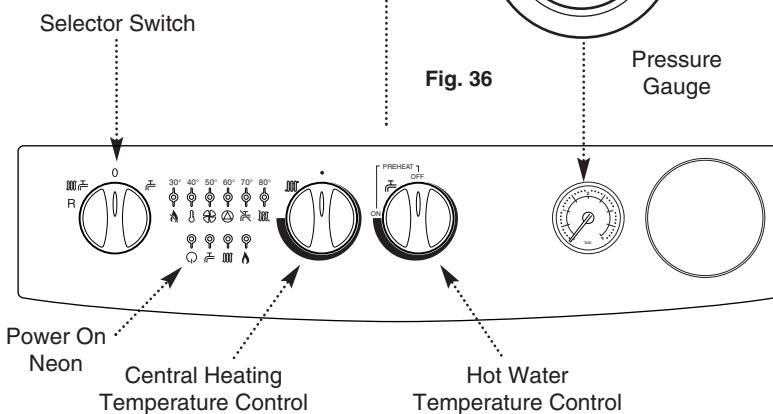

Fig. 37
2. Set the hot water and central heating temperature controls to maximum and the selector switch to the OFF position (Fig. 37).
6. Turn the selector switch to the Central Heating and Domestic Hot Water position (☀️). The power ON neon (⊙) will illuminate (Fig. 37).